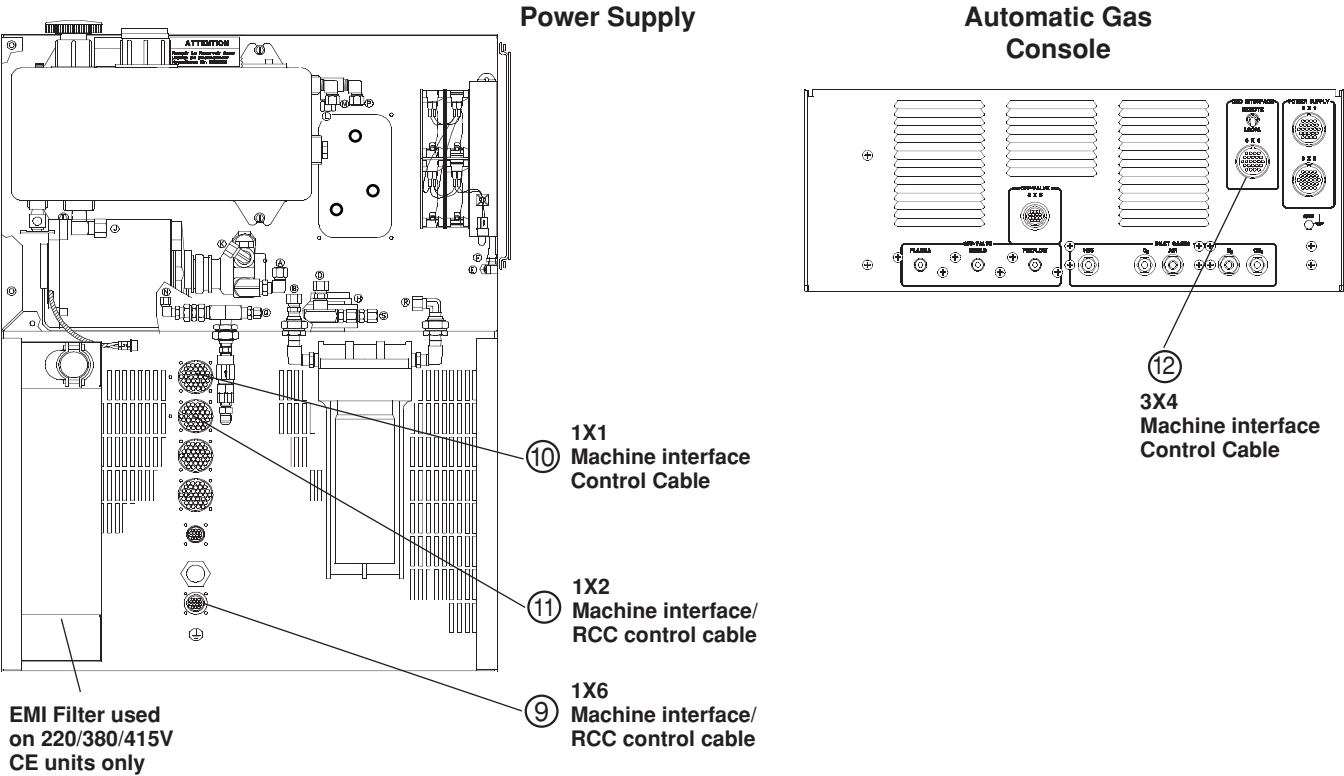

Figure 3-19 Power Supply and Automatic Gas Console Interconnections to Machine Interface
Power Supply to Machine Interface /Timer-Counter Interconnections (Figure 3-19)**⑨ Timer-Counter Control Cable (Figure 3-20)**
Power Supply to Machine Interface Interconnections (Figure 3-19)**⑩ Machine Interface Control Cable (Figure 3-21)**
Power Supply to Machine Interface /RCC Interconnections (Figure 3-19)**⑪ Machine Interface Current Setpoint Cable (Figure 3-22)**
⑫ Gas Console to Machine Interface Interconnection (Figure 3-19)